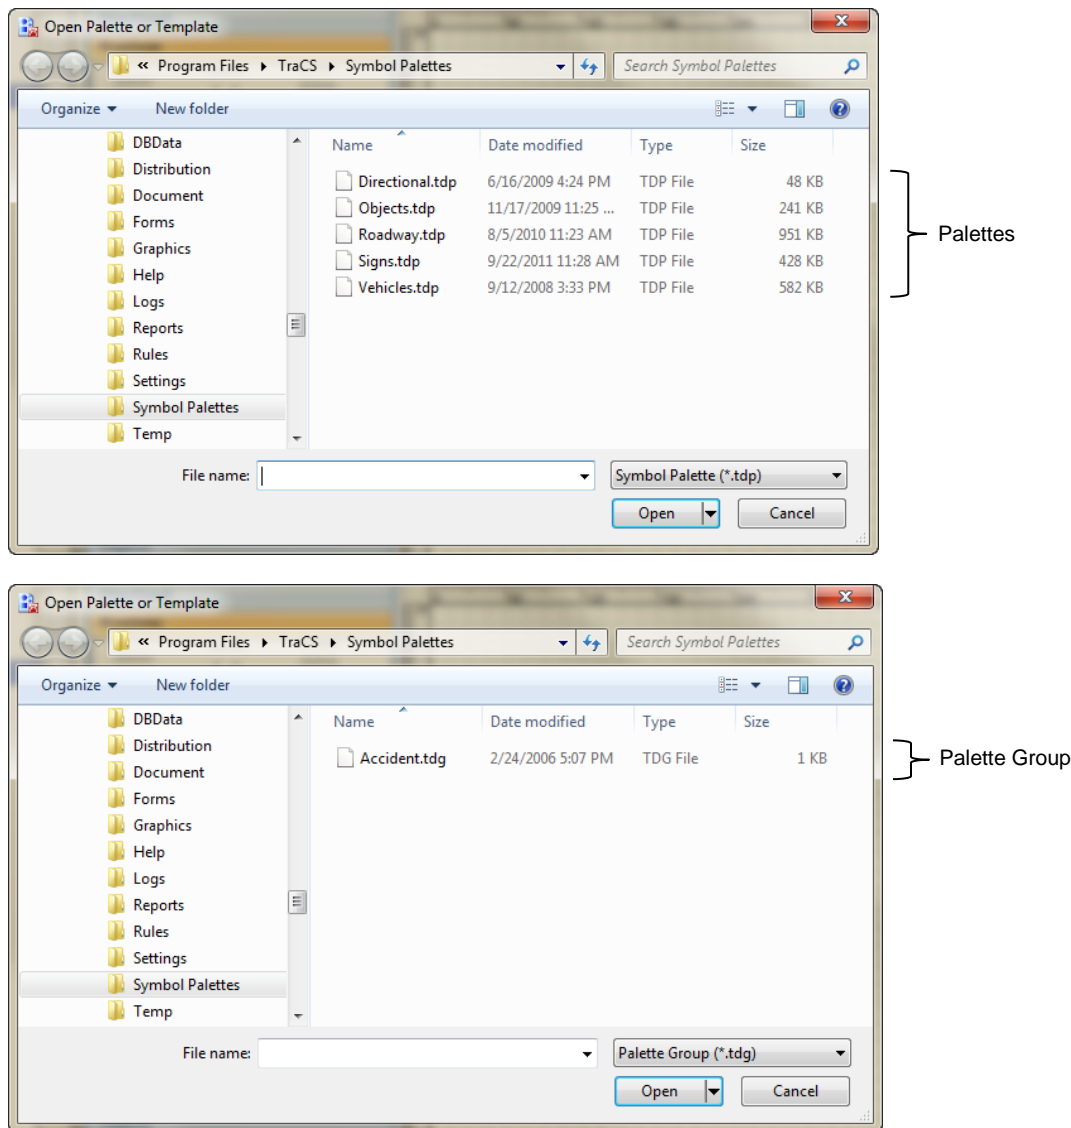

Figure 113. Open Palette or Template Dialog Box
**NOTE:** Palette file extensions are .tdp. Palette group extensions are .tdg. Only one type of extension displays at a time in the dialog box, as shown in Figure 113.